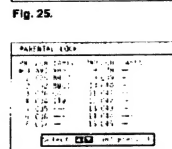

Fig. 25.
- 6 After fine-tuning, press OK. The cursor appears beside the next programme position (at the left margin). (See Fig. 25.) Now the fine-tuned level is stored.